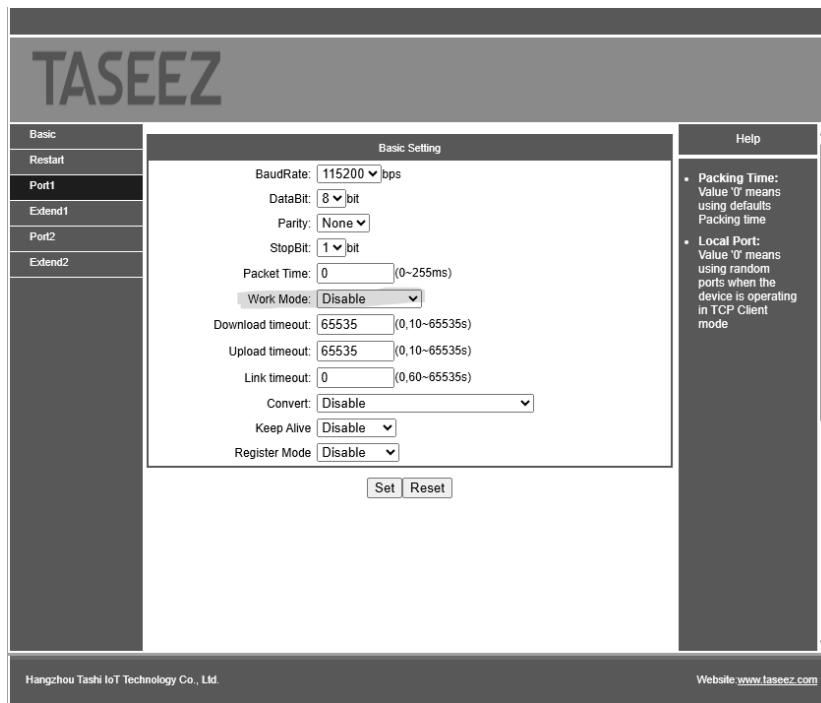

Figure 15
a. If setting up the device using the webpage, navigate to the “Port1” tab to disable the RS232 port. Figure 15.